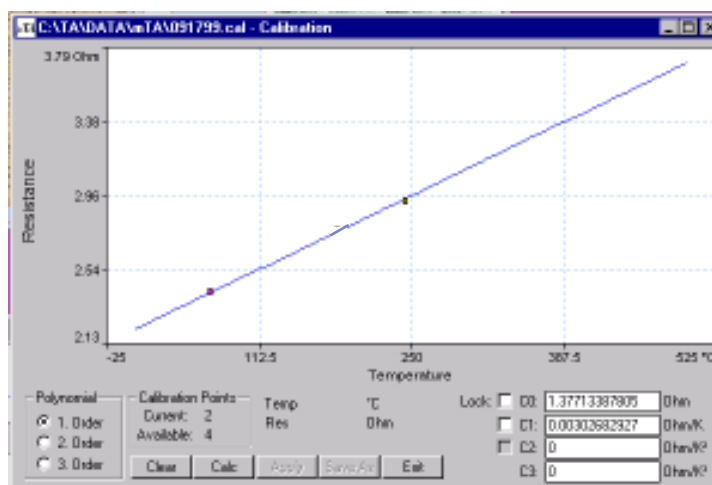

Figure 4.7 Calibration Line Passing Through Calibration Points
11. Click on **Calc**. The calibration line should now pass through the two calibration points, and the C0 and C1 calibration constants should have been updated. Figure 4.7 shows the **Instrument Calibration** window after calculation.